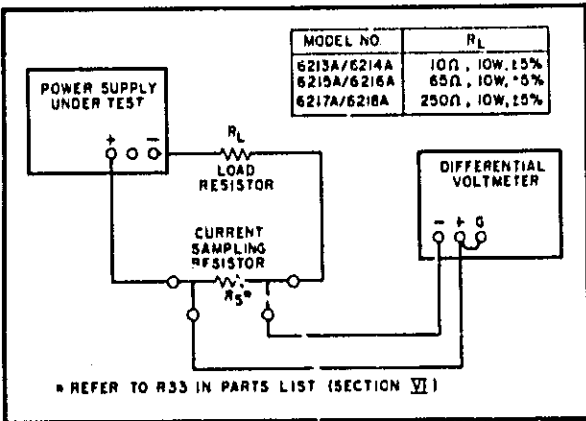

Figure 5-10. Constant Current, Test Setup
- a. Connect test setup shown in Figure 5-10
- a. Connect test setup shown in Figure 5-10.
- a. Utilize test setup shown in Figure 5-10.